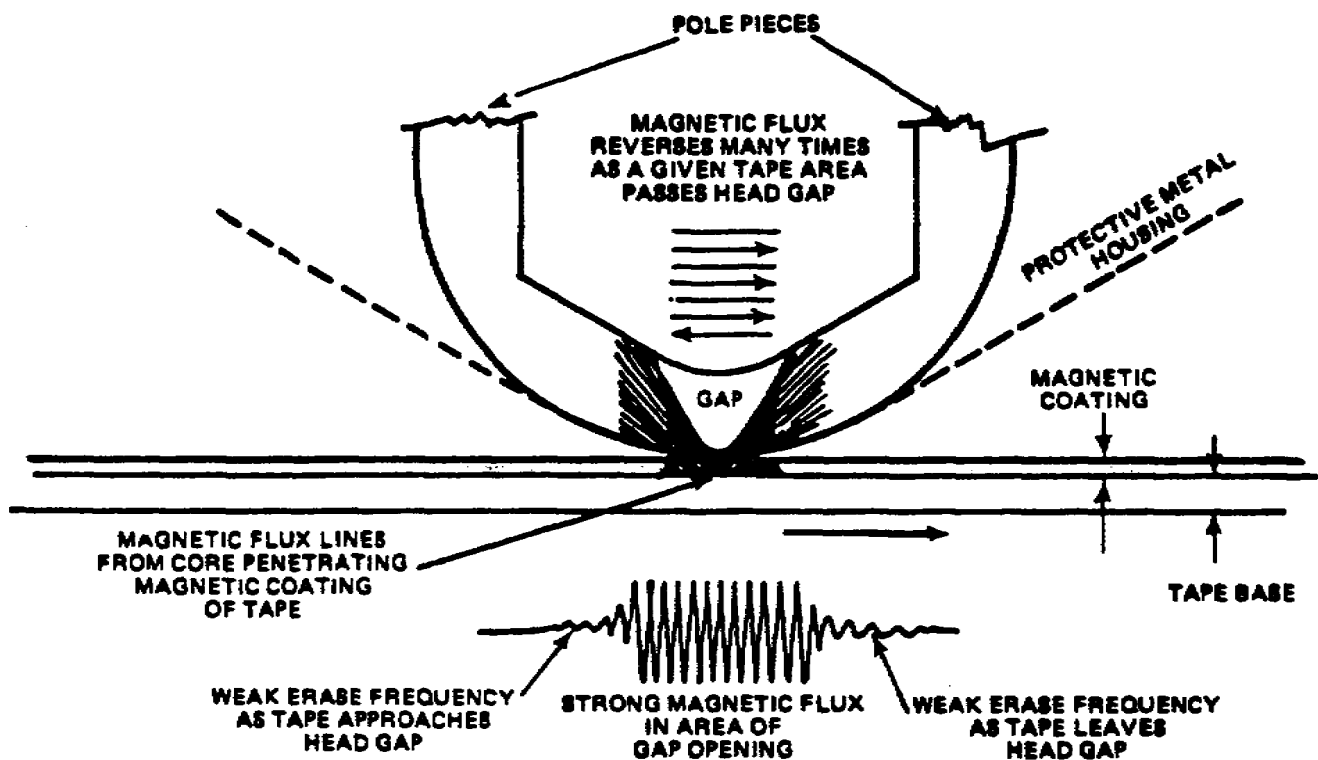

Figure 3-4. Action of high-frequency erase head
(1) If a single magnet is used, the tape is erased by the magnetic flux.
(2) However, with more than one magnet, the tape is erased by the changing cycles of the magnetic flux fields.
(3) The more popular erase heads are those which use a high-frequency current to create an AC magnetic flux. This current is supplied by the bias oscillator, which also provides the bias current to the record head, where the magnetic flux lines penetrate the magnetic coating of the tape (fig 3-4). The AC erase head has fewer turns of wire than the standard playback head, and it passes current easier and operates better at the higher frequencies.